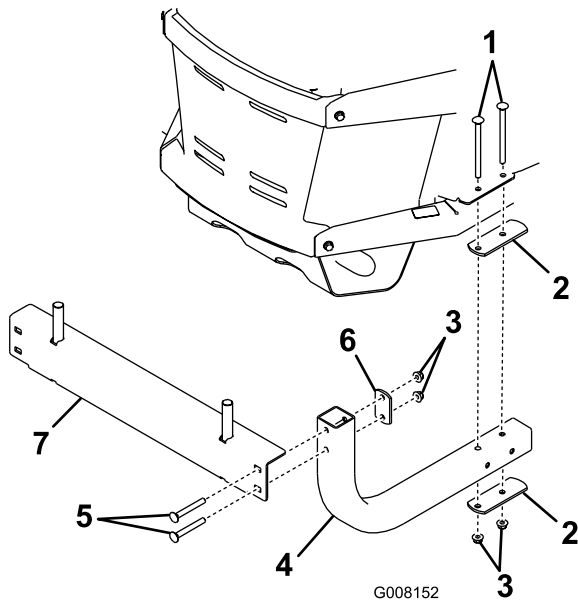

Figure 5
2. Install the two carriage bolts (3/8-16 x 5) through the holes on the frame as shown in Figure 5. Place two stiffeners on the top and bottom of the bagger tube and install on carriage bolts. Fasten with two lock nuts (3/8 inch) ; leave loose to aid installation. Repeat procedure for other side.
3. Align the holes in the bagger tube with the bagger hitch. Fasten with hardware and stiffener as shown in Figure 5; leave loose to aid in installation.